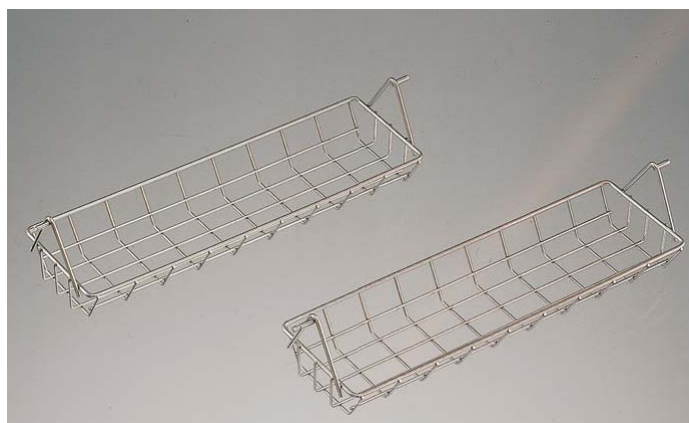

Figure 3.8
If you are using meat baskets (see figure 3.8), act as follows:
- With both the TDR 5 and TDR 5+5, you must stick the ends of the meat baskets through the appropriate holes of the rotor disks (see figure 3.8).